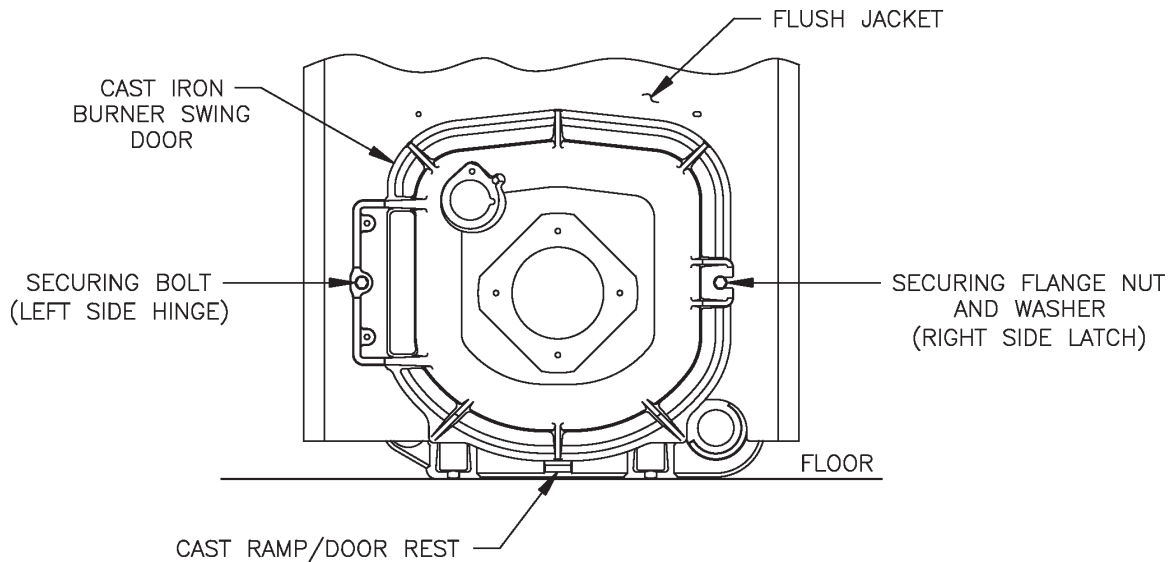

Figure 11A: Partial Front View-Burner Swing Door Mounted to Boiler-Fully Closed and Secured
4. Use the following procedure to properly close and secure the burner swing door after it has been removed and re-installed for Field Assembly (Knockdown Boiler) or opened for inspection, cleaning or field service (refer to Figures 11A and 11B):
Step 1. Lift the door up onto the built-in cast ramp/door rest (protruding from the bottom of the front section casting - see Figure 11A), while rotating the articulated hinge and door to the right and engaging the slot (on right side of door) unto the 5/16" stud protruding from the front section.